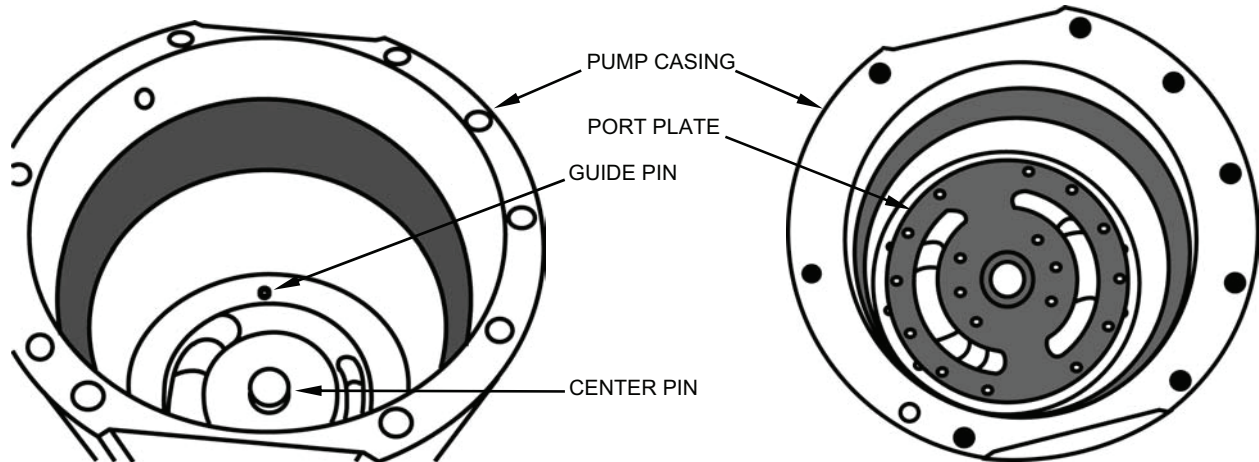

Figure 32. Port Plate and Guide Pin in Pump Casing.
- c. Insert the plastic guide pin and metal center pin into the bottom of the pump casing (see Figure 32).
- d. Install the port plate. Make sure the locating slot in the underside of the plate fits over the guide pin in the bottom of the pump casing (see Figure 32).